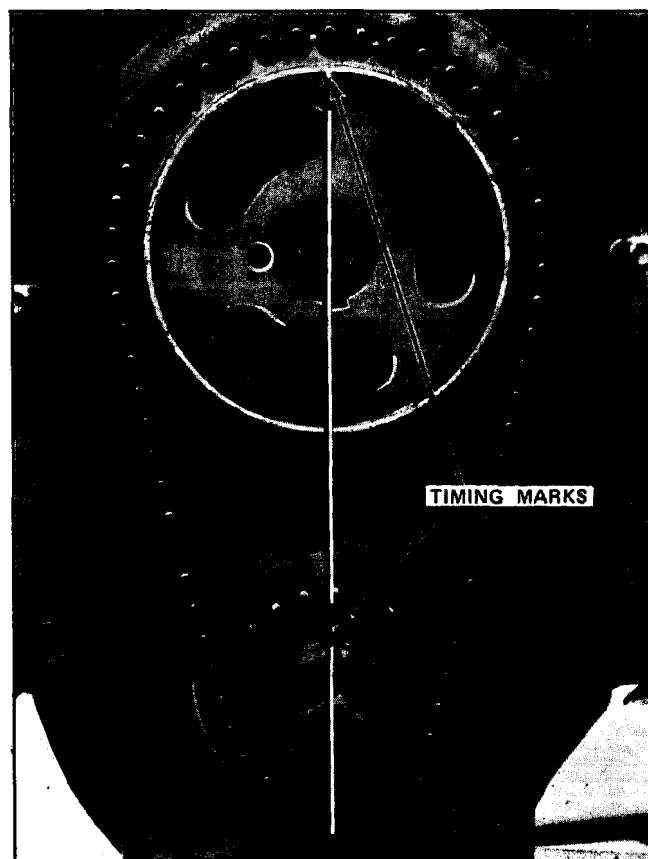

Fig. 6-127 Timing Marks - Aligned at No. 1 T.D.C. - All Except 307 Engine
3. Align timing marks to simplify proper positioning of sprockets during reassembly (Fig. 6-127).
19. Align timing marks on timing chain sprockets and remove timing chain and sprockets. Refer to Figs. 6-127 and 6-128.
- 3. Install timing chain sprockets and timing chain, making sure marks on sprockets are aligned properly. Refer to Figs. 6-127 and 6-128.